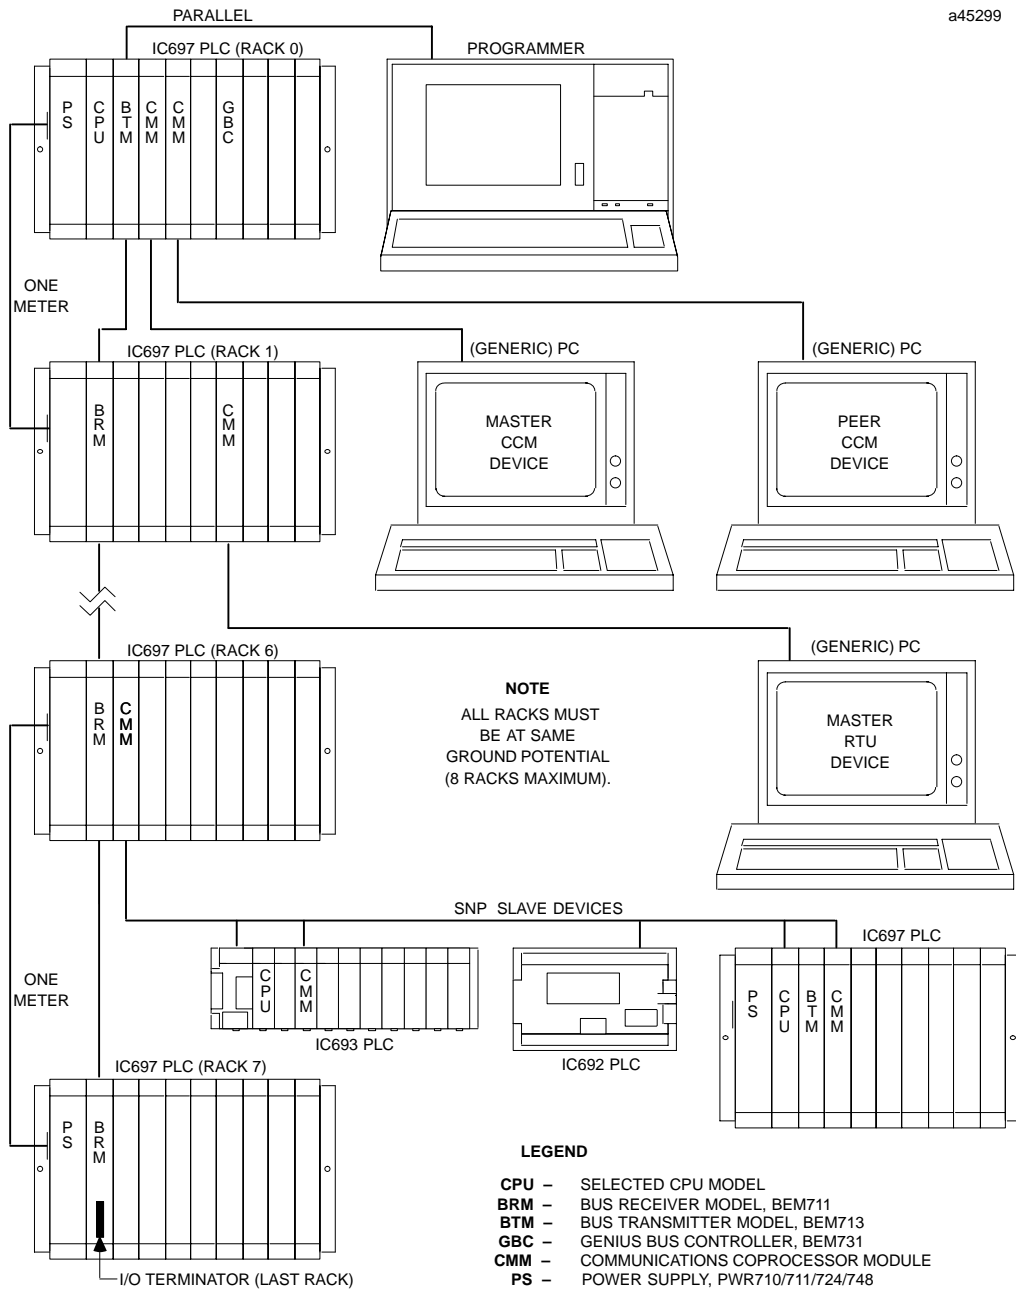

Figure 2. Typical PLC System Configuration
The CMM provides both the RS-232 and RS-485 Interfaces and communicates with the PLC CPU over the backplane. Many CMMs can be placed in a single IC697 PLC system as illustrated by Figure 2.
Figure 2 illustrates typical CMM interface installations in a IC69* PLC system.
- Install module in the rack (see Figure 2).